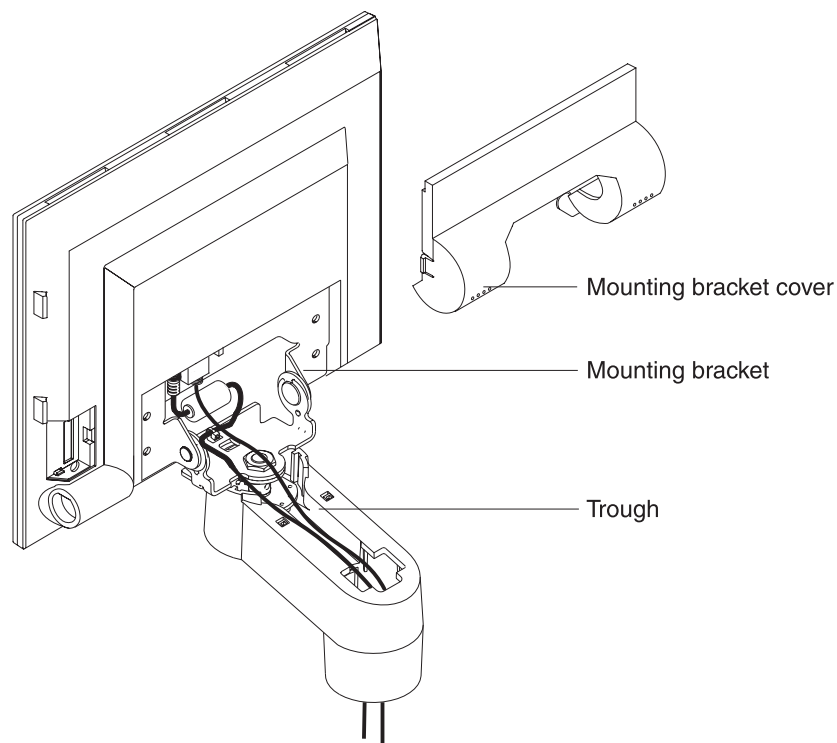

Figure 27. Routing the cables
3. Separately route these cables up through the base of the integrated pedestal as shown in Figure 27.